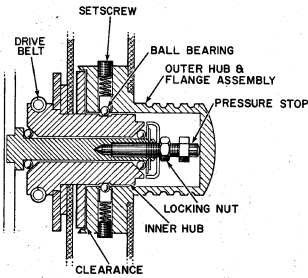

Figure 4
The spring Drive Belt, connected between the Drive Pulley and a pulley on the Inner Hub Assembly, causes the Inner Hub Assembly to rotate on a ball bearing shaft (Figure 4). The Outer Hub & Flange Assembly, on which the ribbon is wound, is mounted on the Inner Hub Assembly and rotated by the friction drive resulting from three ball bearings that protrude from the outer hub under spring tension and exert pressure in a groove on the inner hub. This allows the inner hub to rotate an amount determined by the drive belt arrangement while the outer hub rotates only the amount required to take up the slack in the ribbon.
1. Remove the Outer Hub & Flange Assembly and loosen the Pressure Stud locking nut (Figure 4). Adjust and secure the stud so that,